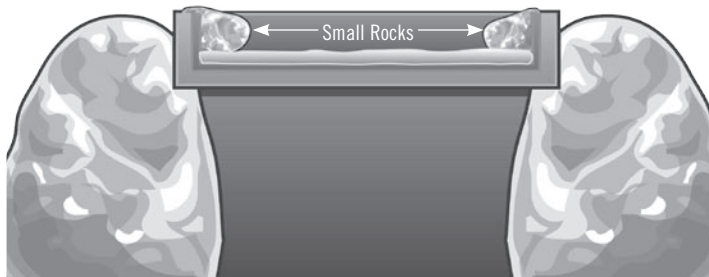

Fig. 14 Place smaller rocks on the rock ledge in the BIOFALLS® filter.
- Place two larger boulders on either side of the waterfall you are creating in order to “frame” the waterfalls. The water will be running between the two larger boulders you’ve set in place. (See fig. 14)
- Place smaller rocks on the rock ledge inside the BIOFALLS® filter to help hide it in the landscape. The rock tray inside the BIOFALLS® filter will help disguise the rest of the unit into the landscape. (See fig. 14)